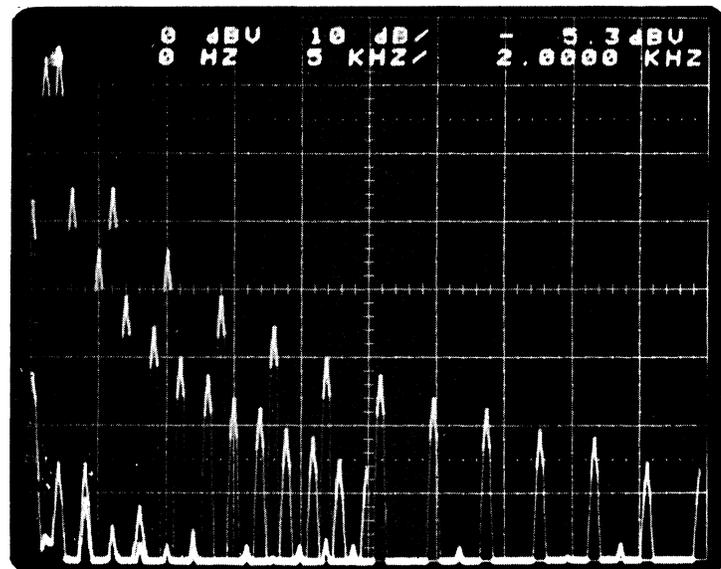

Fig. 4-2 Foreground (Intensified Sweep) Display of 0 - 50 KHz Analysis
- a. Rotate RESOLUTION to 250 Hz (50 KHz SPAN). The display from 0 - 50 KHz is intensified and TUNING is written on the CRT in place of 10 KHz/. The intensified portion, 0 - 50 KHz, corresponds to the SPAN that will be analyzed with 250 Hz resolution. The foreground soon appears, and the annotation TUNING is replaced by 5 KHz/. The display is seen in Fig. 4-2 and the foreground is the more intensified sweep.